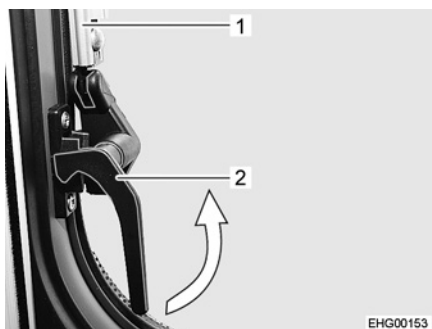

Fig. 23 Catch lever, on the side ("closed" position)
- Turn the catch lever on the side (Fig. 23,2) a quarter turn towards the centre of the window.
- Open the hinged window to the desired latched position. The automatic hinge (Fig. 23,1) locks in place automatically.